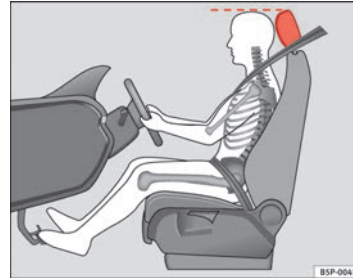

Fig. 2 Correct head restraint position for driver
- Adjust the head restraint so that its upper edge is at the same level as the top of your head, or as close as possible to the same level as the top of your head ⇒ Fig. 2.